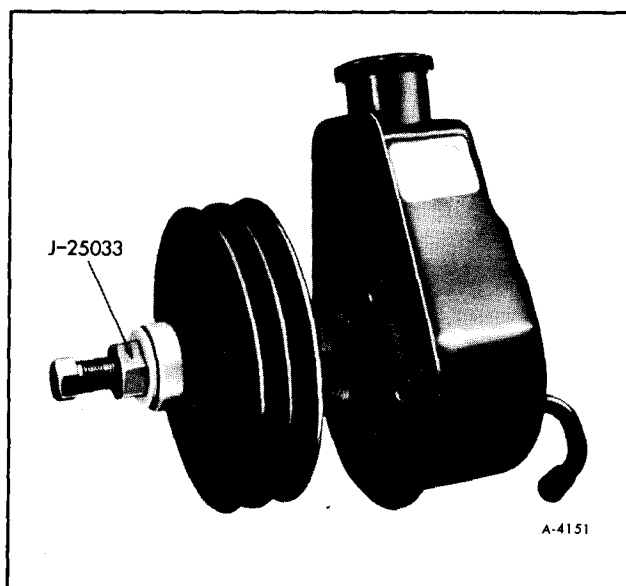

Figure 23—Pulley Installation - Special Tool J-25033
**CAUTION:** *Do not hammer pulley on, as this will damage internal pump parts (figure 23).*